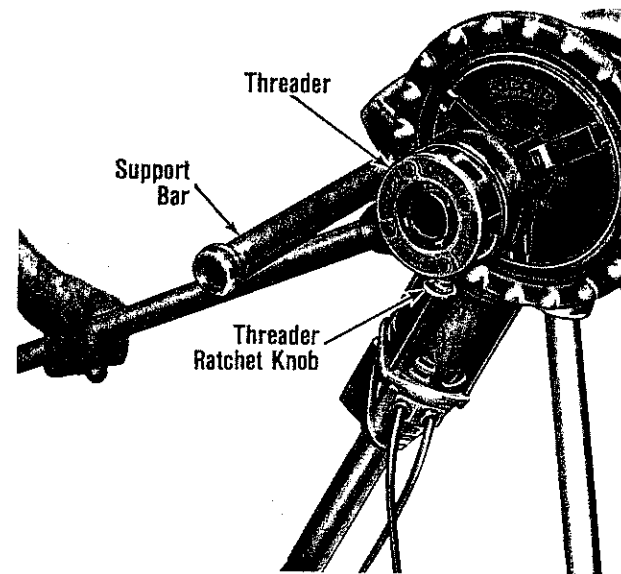

Figure 11. Disengaging Threader from Pipe.
6. Push back Support Bar (Fig. 11) on switch side.
7. Reverse Threader Ratchet Knob (Fig. 11).